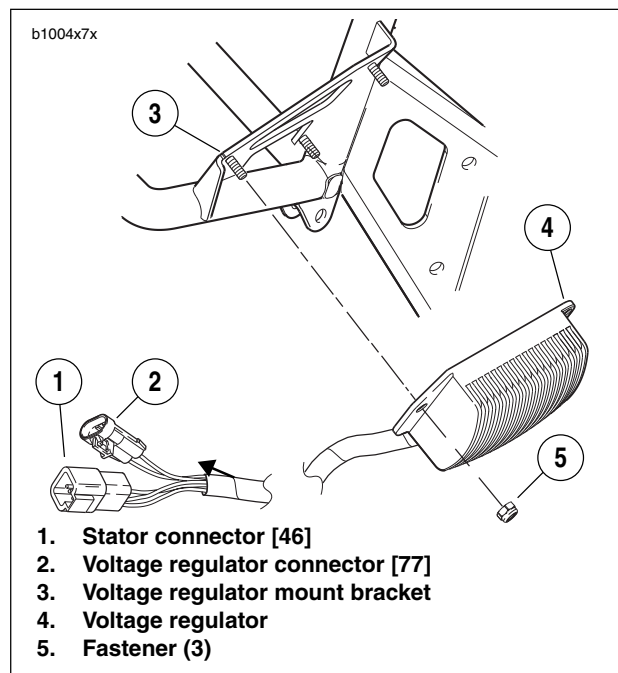

Figure 7-37. Voltage Regulator
3. See Figure 7-37. Disconnect stator connector [46] (1) and voltage regulator connector [77] (2) located under sprocket cover. See 7.24 INTERACTIVE EXHAUST HARNESS\(XB12 MODELS\).
4. Remove fasteners (5) and voltage regulator (4) from bracket (3).
1. See Figure 7-37. Attach **new** voltage regulator (4) to bracket (3). Tighten **new** fasteners (5) to 48-60 **in-lbs** (5.4-6.8 Nm).
2. Connect stator connector [46] (1) and voltage regulator connector [77] (2) located under sprocket cover. See 7.24 INTERACTIVE EXHAUST HARNESS\(XB12 MODELS\).